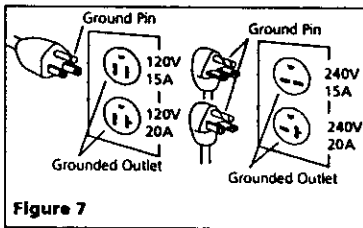

Figure 7
1. This product must be grounded. In the event of an electric short circuit, grounding reduces the risk of electrical shock by providing an escape wire for the electric current. Unit is equipped with a cord that has a grounding prong. It will fit one of the common outlet types shown in Figure 7. If plug will not fit in the desired outlet, have the plug or the outlet replaced by a qualified electrician.
1. If the plug on the electrical cord of the unit is unfamiliar to you or will not fit your particular receptacle, Figure 7 will help you understand why by illustrating the different plugs and the voltages they are to be used with.
Dual voltage motors may be connected for either 120 volts or 240 volts. By comparing the plug on the cord with the receptacles shown in Figure 7, you can determine for which voltage your compressor is factory wired. Also check motor decal to change from low voltage to high voltage.